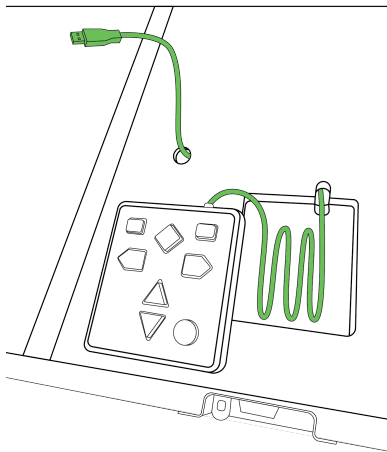

Figure 6-58. The keypad and its footprint
1. To install the keypad, first thread the end of the USB cord through the hole in the top edge of the keypad's footprint (Figure 6-58).